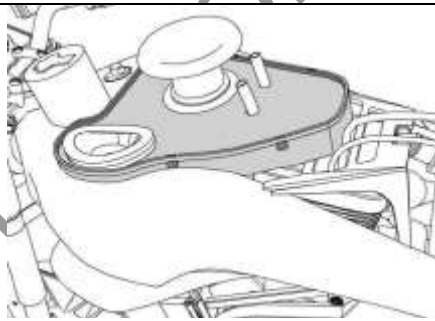

Figure 7
5. Remove the 4 screws that attach the air box floor. (Figure 7)